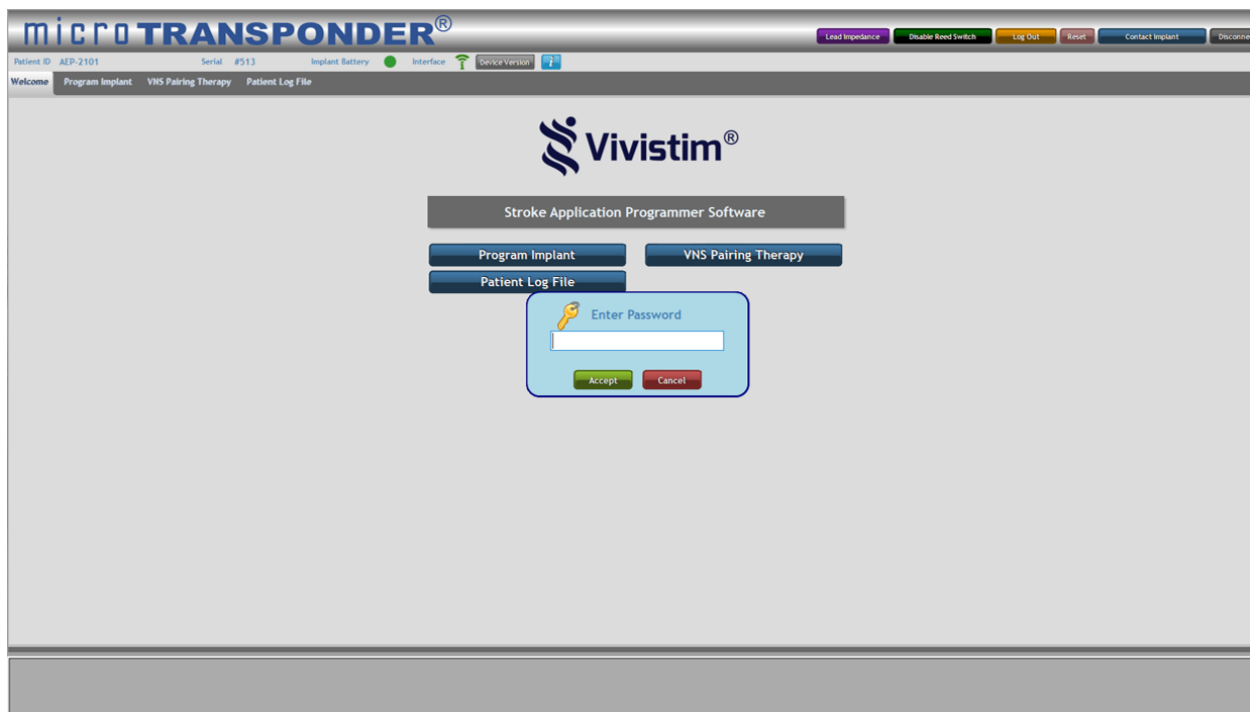

Figure 6.2: Password Prompt
- When prompted (as shown in Figure 6.2), enter the password provided.